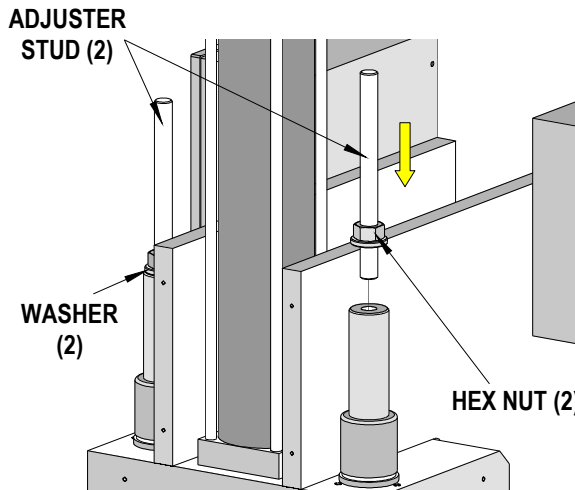

Figure 2-3
4. Screw the two (2) adjuster studs with two washers and two hex nuts into the press ram guide posts as shown in Figure 2-3.